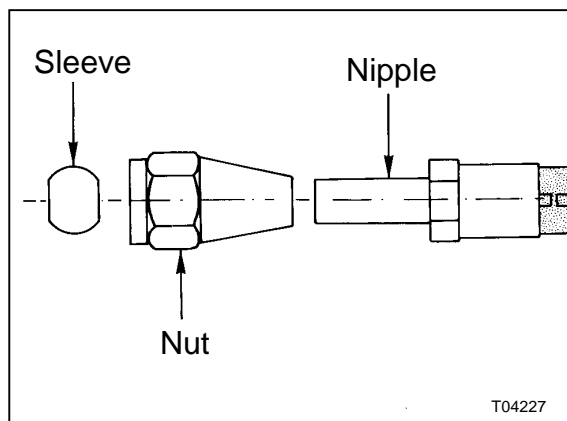

Figure 14: Hose nipple, sleeve and nut
- 5) Slide the nut, followed by the sleeve, on the hose nipple (see Figure 14). Insert the nipple in the appropriate connector body of the quick release valve, until it bottoms on the seat.